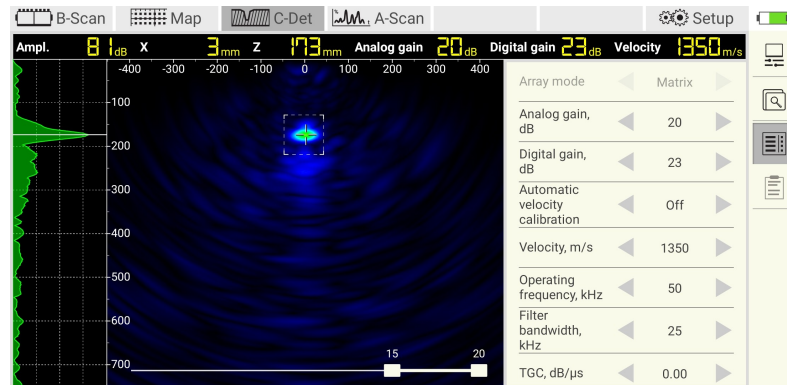

Figure 6: Crack-depth evaluation
- Try to locate the area of interest using the cursor (Figure 6)